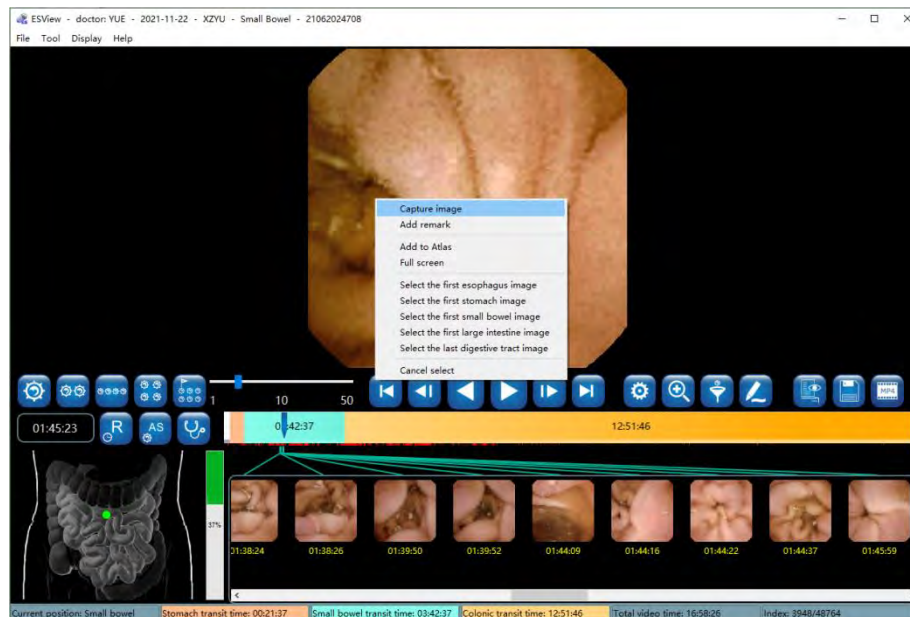

Figure 4-21: Image Capture
2. In addition to tagging an image, the user can also capture an image. Move the mouse over the image to be captured and right click on the image, then select “Capture image” in the pop-up menu to capture the image (Figure 4-21). An alternative way to capture an image is to double click on the image. The captured image will also appear in the bottom thumbnail area. If the current image is already tagged, such as first esophagus image, the image capture function is disabled.